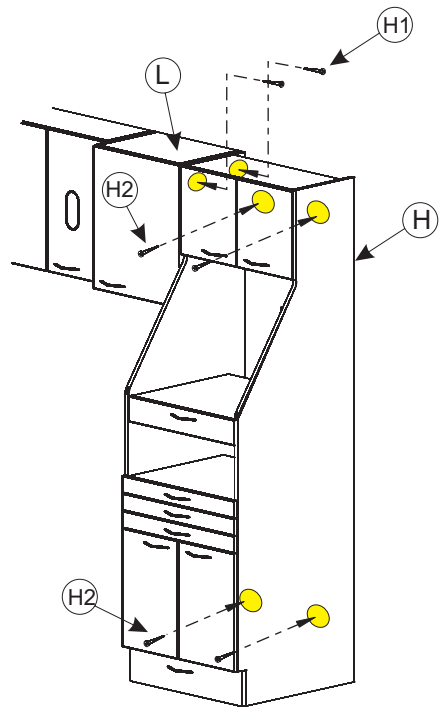

Figure 4B
The Sterilization Cabinet (H) may be secured to the Wall Cabinet and/or the wall if so desired . Recommended locations for doing so are shown (see Figure 4B). Use a maximum of 1-1/8" long wood screw (H1) to attach thru the upper storage area to the wall cabinet. Use a proper wall fastener (H2) to secure to the wall thru the back panel.